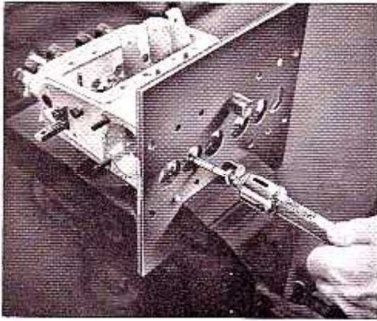

FIG. 16. INSERTING PLUNGER AND TAPPET BLOCK USING FORCEPS 7044/859
21. Using forceps part no. 7044 859 hold the tappet assembly in the horizontal position, with the spring locating hole and the lug on the plunger marked with the part number uppermost. (See Fig. 16.) **NOTE**—If correctly fitted the plunger helix should be at the front.